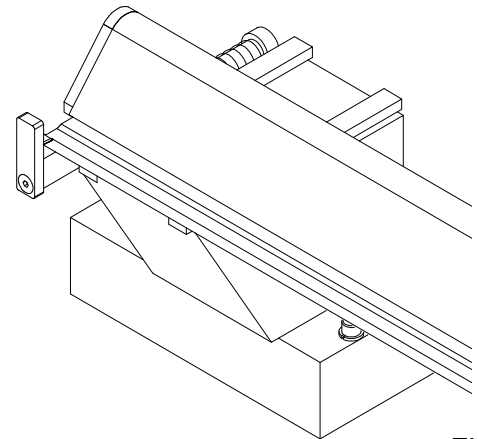

FIG. 23
3. Position the bedknife so the unworn tips on a used bedknives or the ends of a new bedknife are on the gage tips. See FIG. 23. Pull the bedknife forward firmly against the gage tip and then turn on the electromagnets. See FIG. 24. The red light will come "on" on the control panel. Turn and park both alignment gage tips.